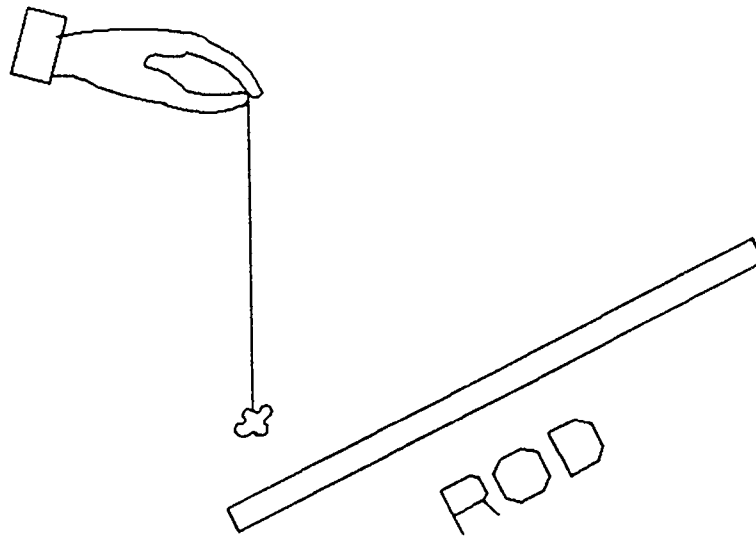

Figure C-1-3
4. Charge the plastic rod with the silk cloth by rubbing it quickly and touch these to the aluminum styrofoam balls until the ball repels away from the stick. (One person holds the ball on a thread; the other touches it with the rod.) The ball acquires the same charge as the rod (see Figure C-1-3, "Charging").